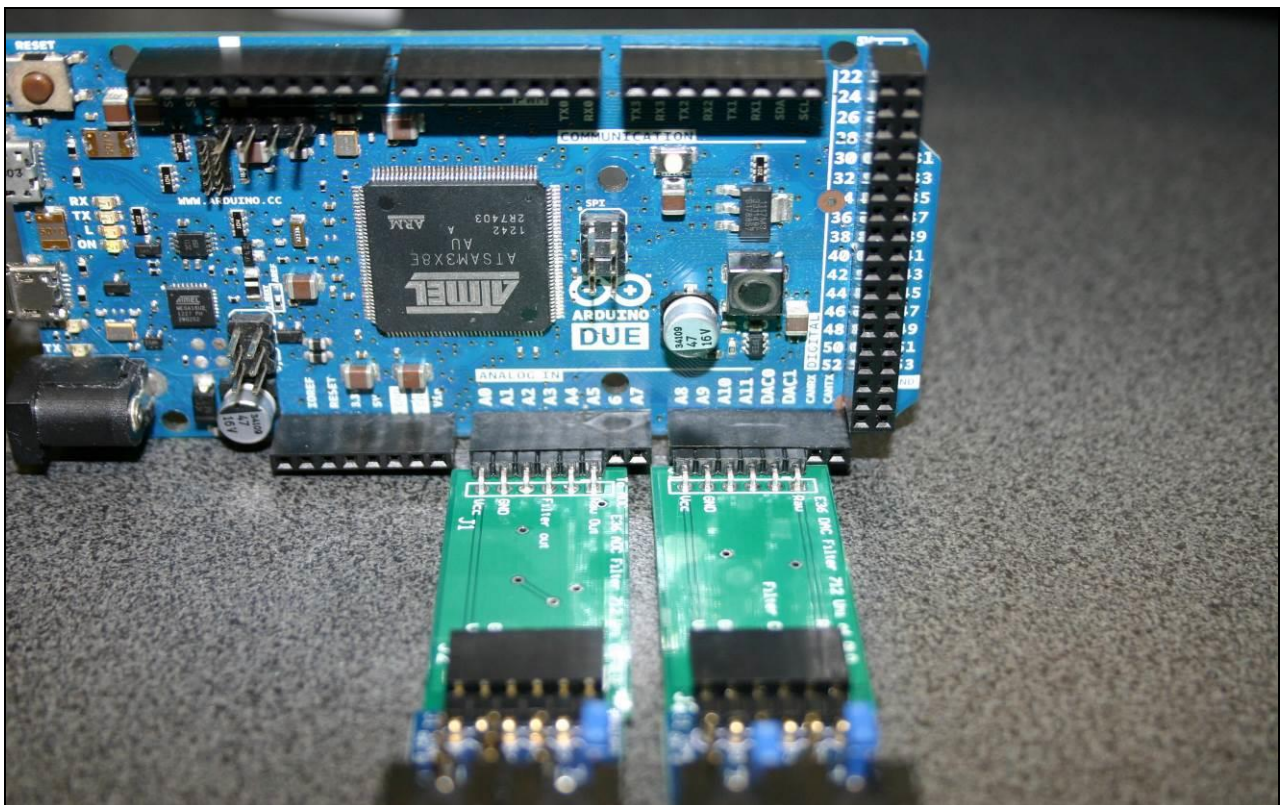

*Figure 12 ADC Filter and PMODCON4*
In Figure 12 you can see one input on the right-hand side of the filter board, and 2 outputs on the left side.
**You can see the input signal as well as the output signal by using a BNC T-piece F-M-F. Connect a BNC male to male cable from the output of the wave gen to the T-piece placed on Channel 1 input. Now connect a BNC-male to RCA-male cable from the T-piece to the PMODCON4 as shown above in Figure 12.**